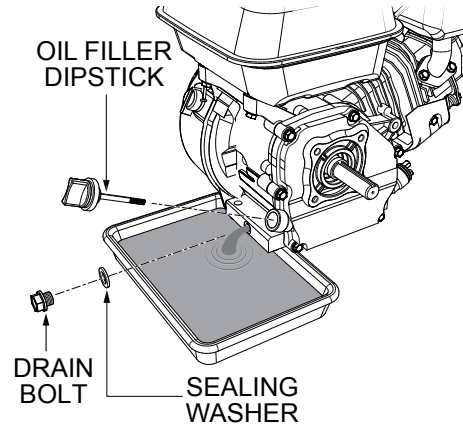

Figure 17. Draining Engine Oil
1. Remove the oil drain bolt and sealing washer and allow the oil to drain into a suitable container (Figure 17).
3. Reinstall the drain bolt with sealing washer and tighten securely (Figure 17).